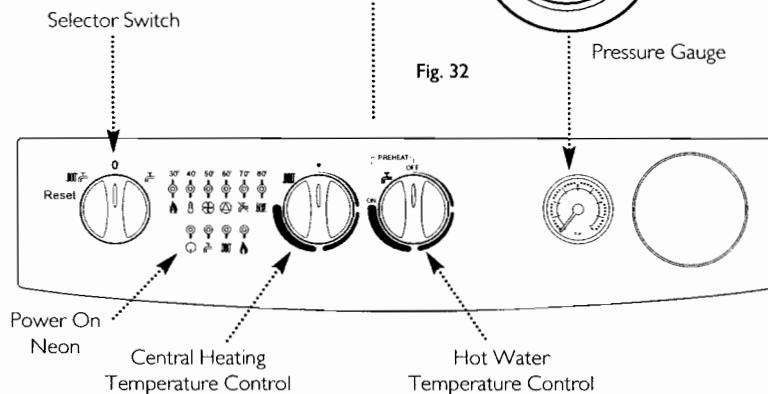

Fig. 33
10. If at any time during commissioning it is required to terminate a particular cycle, e.g. the pump overrun period, turn the selector to the OFF position and then back to either (OFF) or (ON) (Fig. 33).